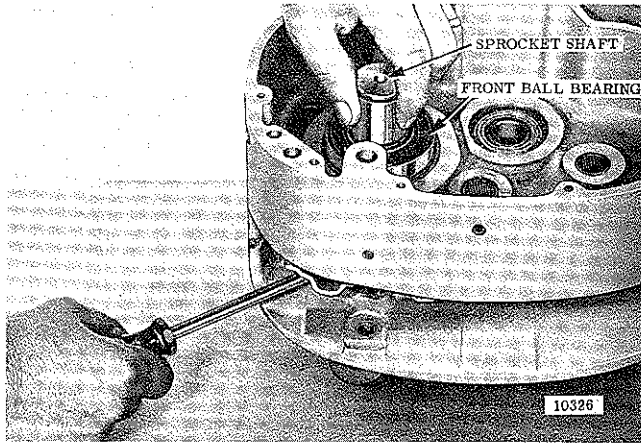
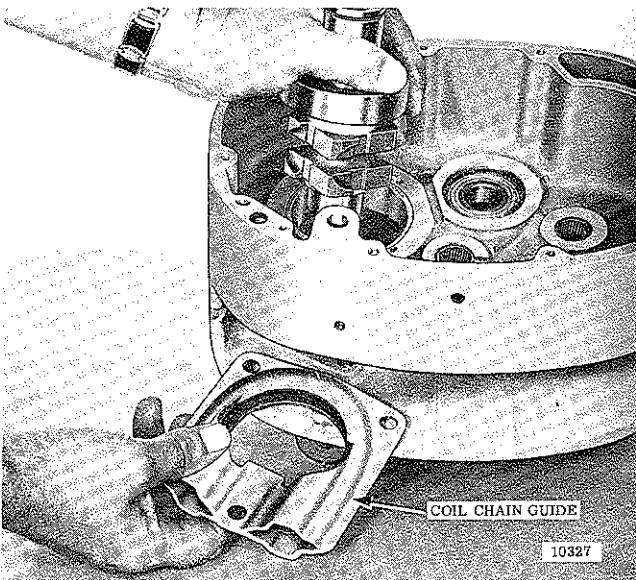
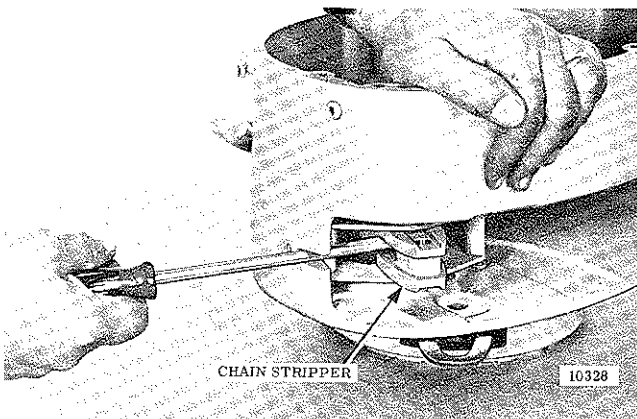

Figure 7-17. Removing Sprocket Shaft and Front Bearing
Figure 7-18. Chain Guide Being Removed From Frame as Sprocket Shaft is Lifted Out (Coil Chain Models)
Figure 7-19. Chain Stripper Being Partly Removed From Chain Guide (Roller Chain Model)
(4) Remove sprocket shaft and front ball bearing assembly from frame by lifting up on end of shaft while prying up on sprocket as illustrated in figure 7-17. The chain guide will need to be repositioned in frame as sprocket shaft is raised to allow the sprocket to pass thru hole of guide (fig. 7-18). On roller chain model hoists, the chain stripper must be partly removed from guide by prying it out using screw driver or other suitable tool. See figures 7-19 and 7-20.